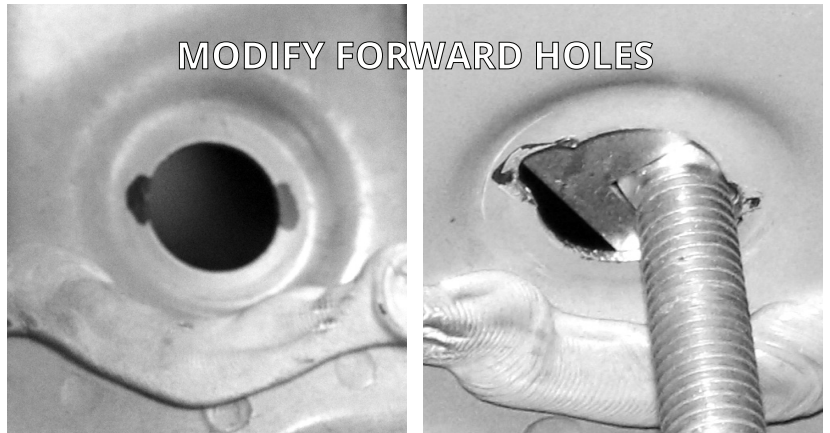

FIGURE A2: VIEWS UNDER THE CHASSIS CHANNELS
2. The two forward holes will need to be modified with a file, die grinder, or similar tool to allow the head of the 1/2" carriage bolt to pass through the hole. Remove 3/16" of material from either side of the forward holes, as shown in Figure A2.